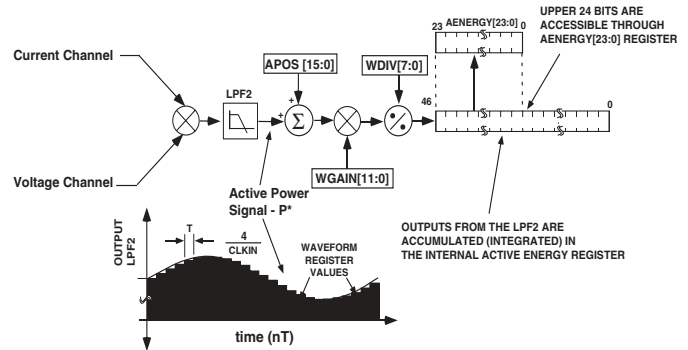

Figure 35 – ADE7753 Active Energy Calculation
The discrete time sample period (T) for the accumulation register in the ADE7753 is 1.1µs (4/CLKIN). As well as calculating the Energy this integration removes any sinusoidal components which may be in the Active Power signal. Figure 35 shows a graphical representation of this discrete time integration or accumulation. The Active Power signal in the Waveform register is continuously added to the internal Active Energy register. This addition is a signed addition, therefore negative energy will be subtracted from the Active Energy contents.
The output of the multiplier is divided by WDIV. If the value in the WDIV register is equal to 0 then the internal Active Energy register is divided by 1. WDIV is an 8-bit unsigned register. After dividing by WDIV, the active energy is accumulated in a 48-bit internal energy accumulation register. The upper 24 bit of this register is accessible through a read to the Active Energy register (AENERGY[23:0]). A read to the RAENERGY register will return the content of the AENERGY register and the upper 24-bit of the internal register is clear after a read to AENERGY register. As shown in Figure 35, the Active Power signal is accumulated in an internal 48-bit signed register. The Active Power can be read from the Waveform register by setting MODE[14:13] = 0,0 and setting the WSMP bit (bit 3) in the Interrupt Enable register to 1. Like the Channel 1 and Channel 2 waveform sampling modes the